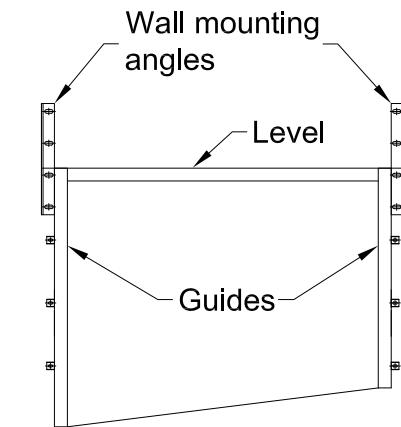

Fig. 1
3. A level datum must be established. This may be done at the lintel using a level of adequate length. (Fig 1.) (or stringline)